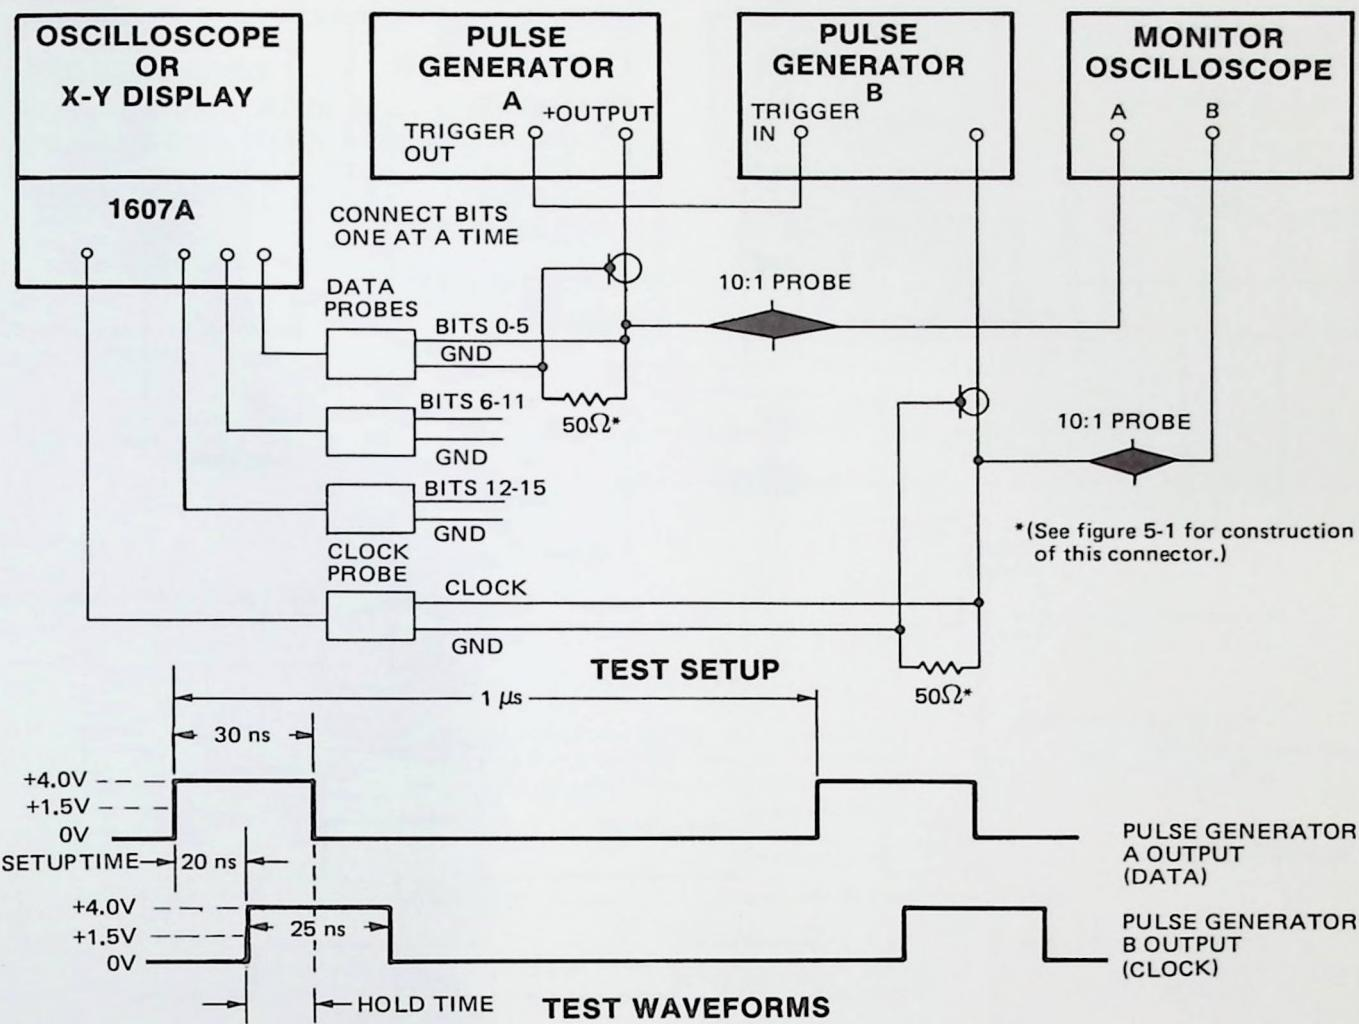

Figure 5-4. Setup and Hold Time Test Setup
- Connect test equipment to CLOCK and DATA probe input 0 as shown in figure 5-4.